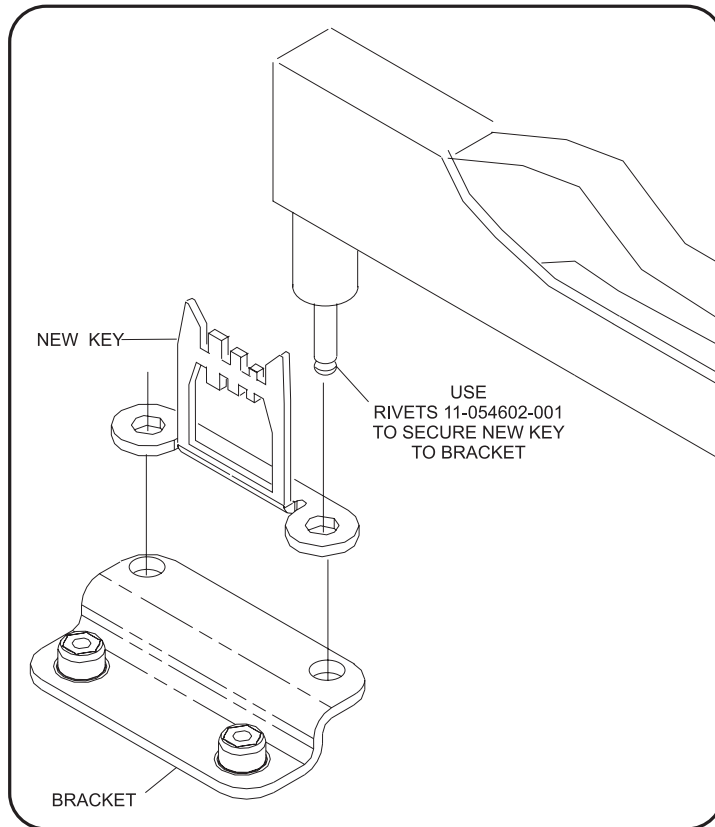

Figure 5
3. Secure new key to bracket with rivets (11-054602-001). Refer to *Figure 5*.